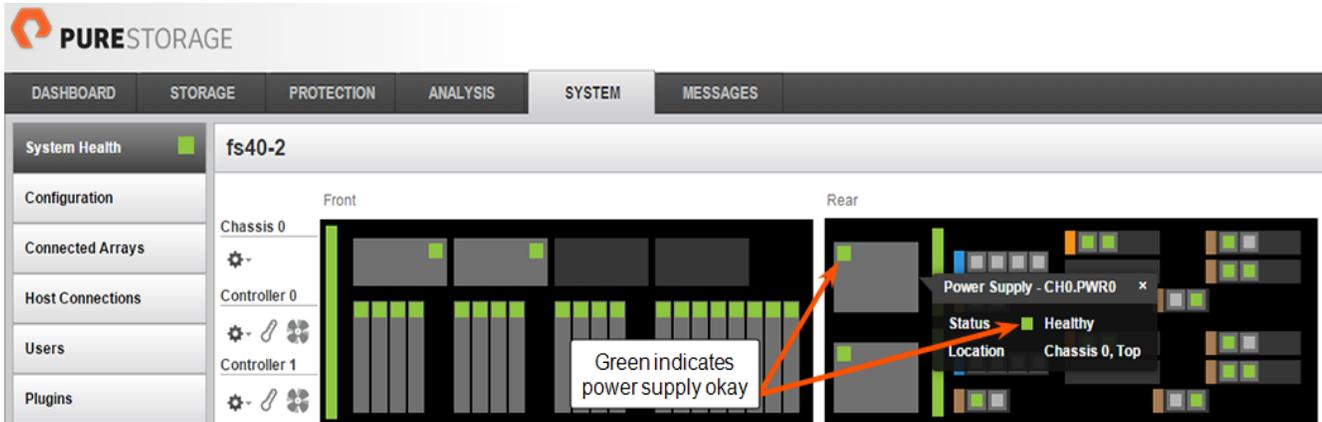

Figure 3-10. GUI Indication of Functional PSU
1. Request that the customer or Pure Storage Technical Support representative use the Purity GUI or CLI to verify the replacement. See Figure 3-10 for an example of GUI indicators and Figure 3-11 for an example of CLI indicators that reflect an operational power supply.